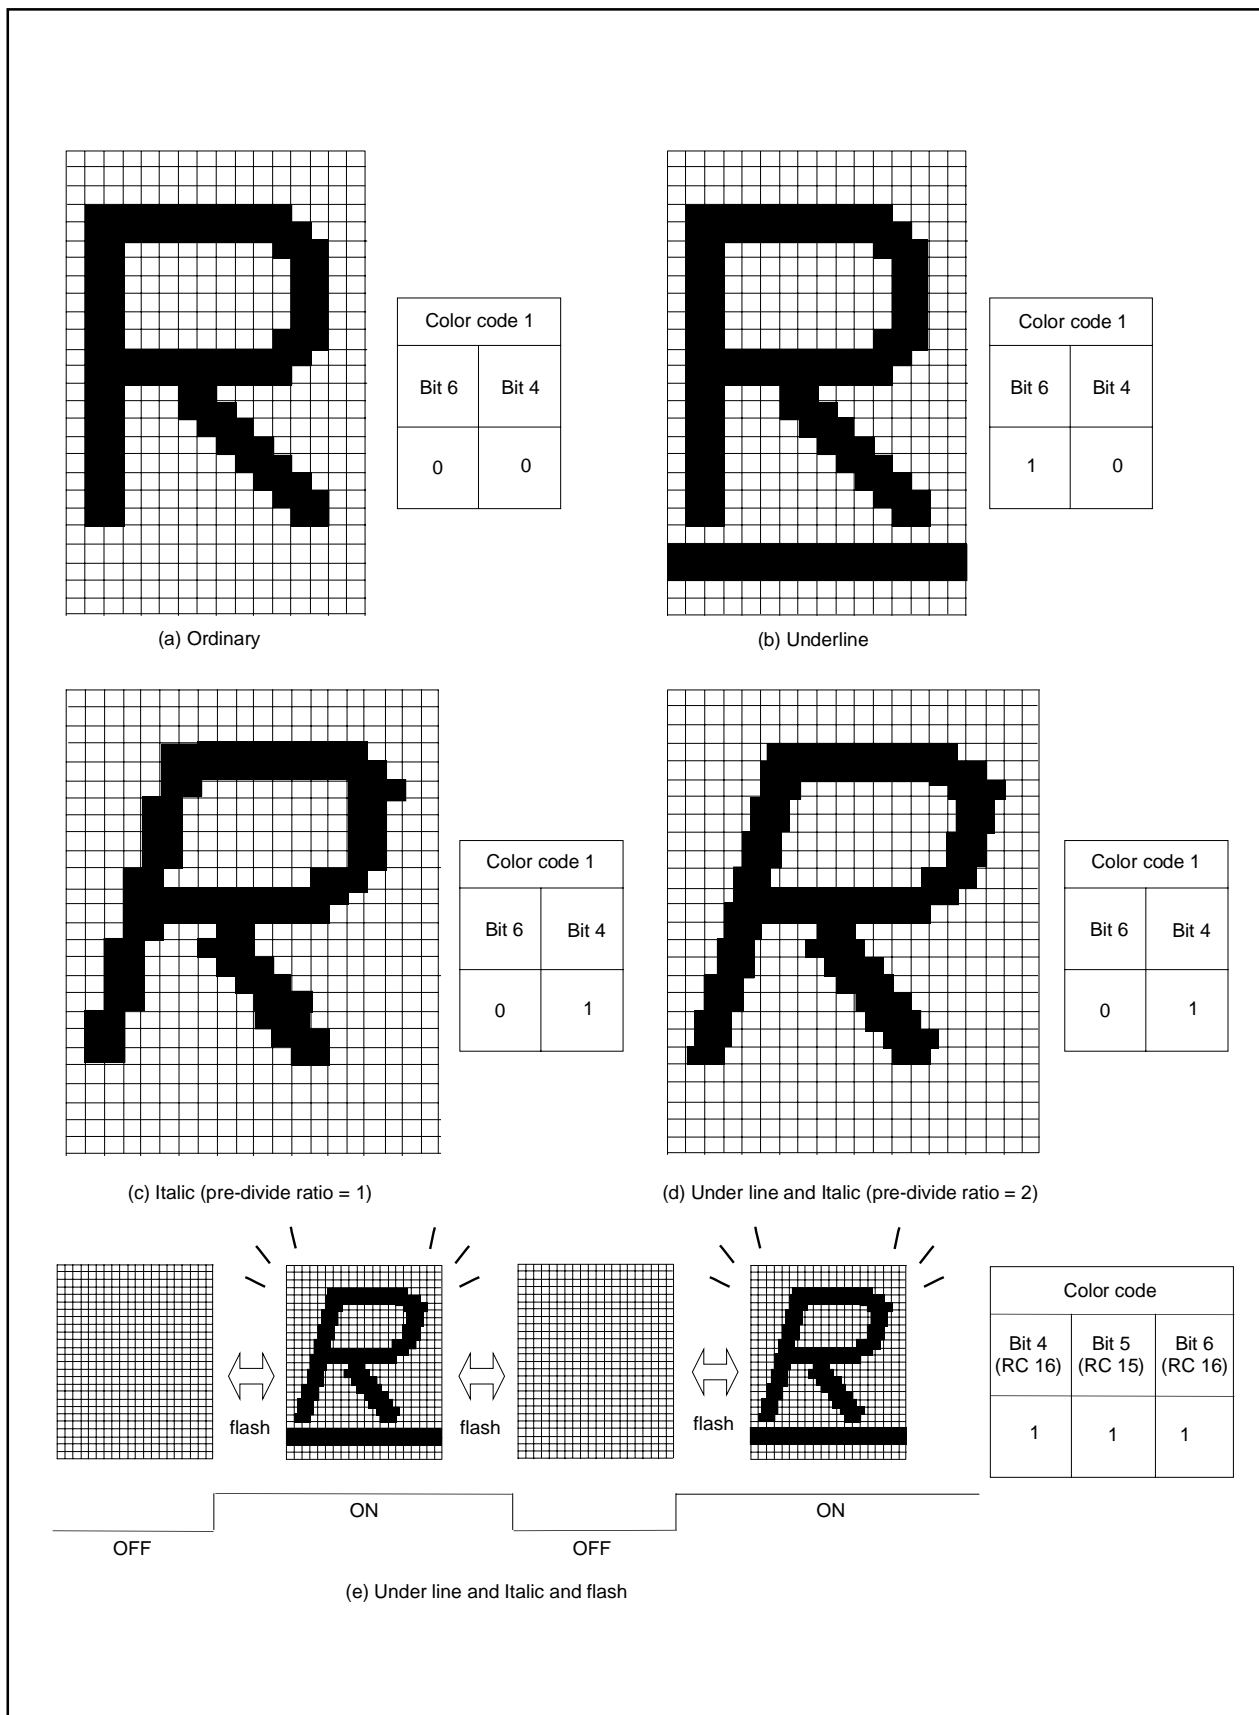

Figure 2.16.31 Example of attribute display (in CC mode)
- 5: The boundary of character color is displayed in italic. However, the boundary of character background color is not affected by the italic (refer to Figure 2.16.31).
- 6: The adjacent character (one side or both side) to an italic character is displayed in italic even when the character is not specified to display in italic (refer to Figure 2.16.31).
- 7: When displaying the 32nd character (in 32-character mode)/42nd character (in 42-character mode) in the italic and when solid space is off (OC14 = "0"), parts out of character area is not displayed (refer to Figure 2.16.31).